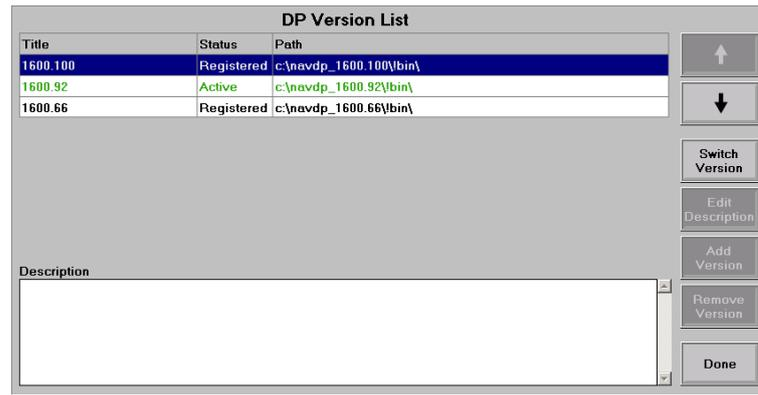

Figure G.9: DPShell. Active version information
- 1.2. Press “Switch Version” item in “Services” menu. “DP Version List” will appear (see Figure G.9):
- 1.6. Version selected in 1.4 has an “Active” status (see Figure G.9).